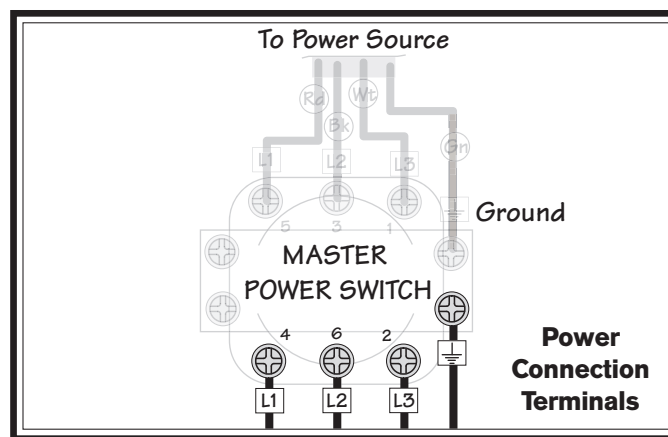

Figure 15. Power connection at main power switch.
3. Connect the incoming L1, L2, L3 and ground wires to the main power switch terminals, as illustrated in **Figure 15**.
For Electrician: Connect the incoming power wires as shown in **Figure 15**.
2. Open the electrical box and disconnect the L1 and L2 wires shown in **Figure 15** on the "To Power Source" side of the switch.